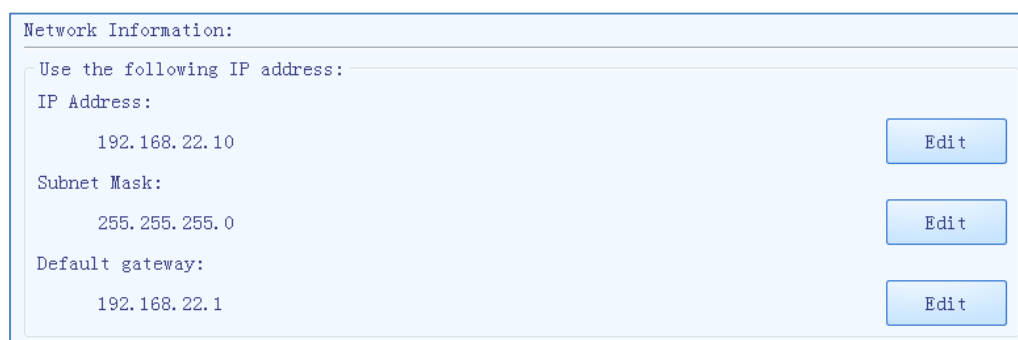

Figure E-6.2a Configuration sub-tab - Network Information window
- **Network Information:** display the network information of the current Gentier instrument. User can press < **Edit** > and the instrument software will pop up the network information window, as shown in figure E-6.2a.